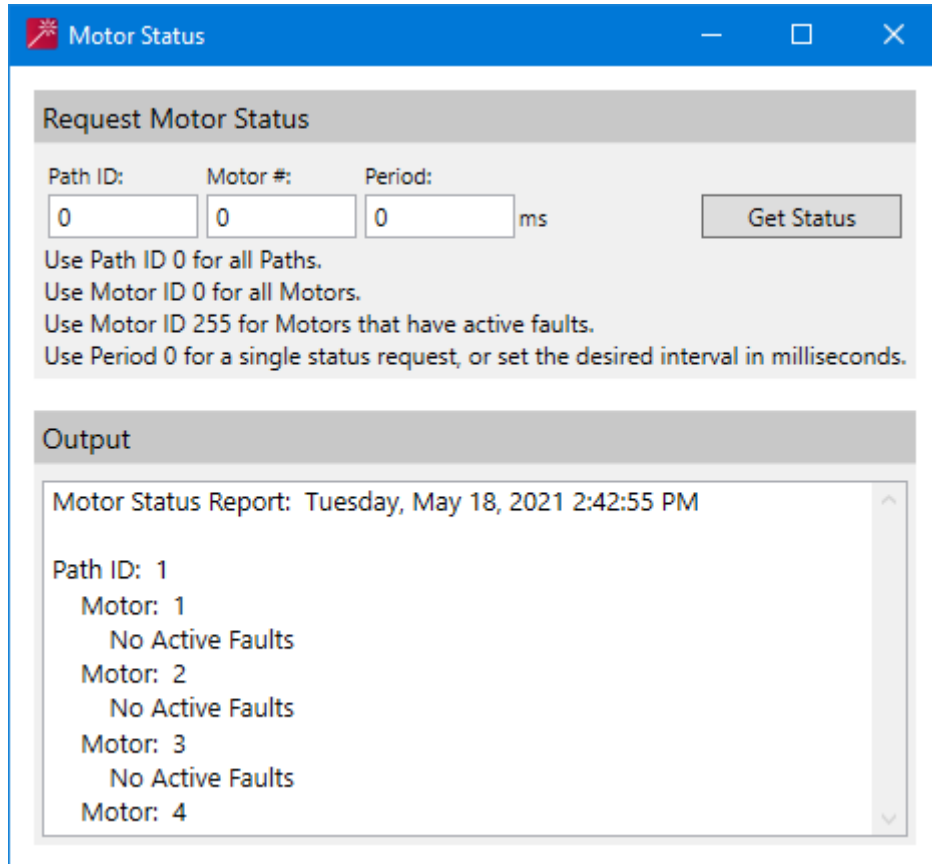

Figure 2-23: Motor Status Window Showing Status
*The requested motor status is displayed in the **Output** field as shown in Figure 2-23. If the **Period** was set to a value other than 0, the **Output** field continuously updates at that interval.*